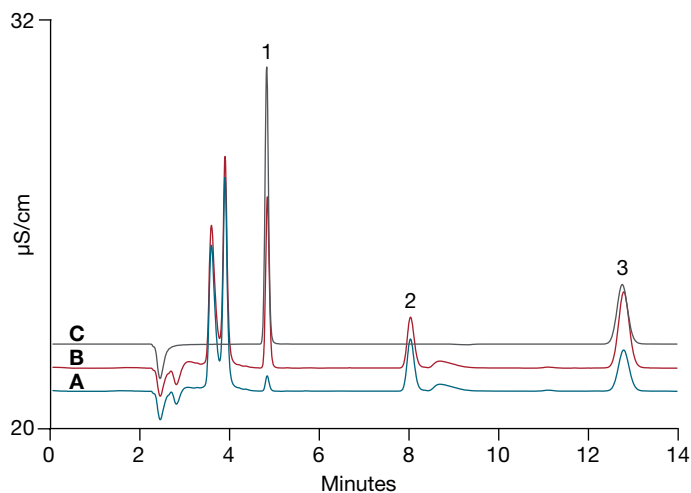

Figure 1. Potential chloride and sulfate in (A) E85 ethanol fuel, and (B) Sample A with 3 mg/L chloride and sulfate added. Compared with (C) 5 mg/L standard.
Figure 1 compares the chromatograms of (A) E85 sample, and (B) Sample A with 3 mg/L of chloride and sulfate added. Chromatogram C shows a 5 mg/L standard for comparison. The accuracy of the method was demonstrated by the 90% and 98% recoveries of 3 mg/L chloride and sulfate. This application proof note demonstrates the determination of potential chloride and sulfate in E85 ethanol fuel following the modified ASTM D7328 method on a Dionex Inuvion IC system.